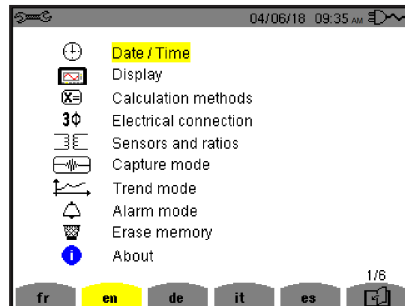

Figure 4-1
1. Press . The Configuration screen appears (see Figure 4-1).
To select the display language, press the yellow button under the corresponding icon on the screen (Figure 4-1).